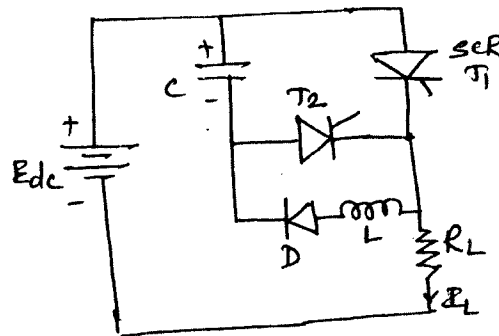

Fig.Q5(c)
- c. For the Auxiliary commutation circuit shown below Fig.Q5(c), compute the value of commutation capacitor 'C' and commutating inductor 'R' for the following data:
For the Auxiliary commutation circuit shown below Fig.Q5(c), compute the value of commutation capacitor 'C' and commutating inductor 'R' for the following data: